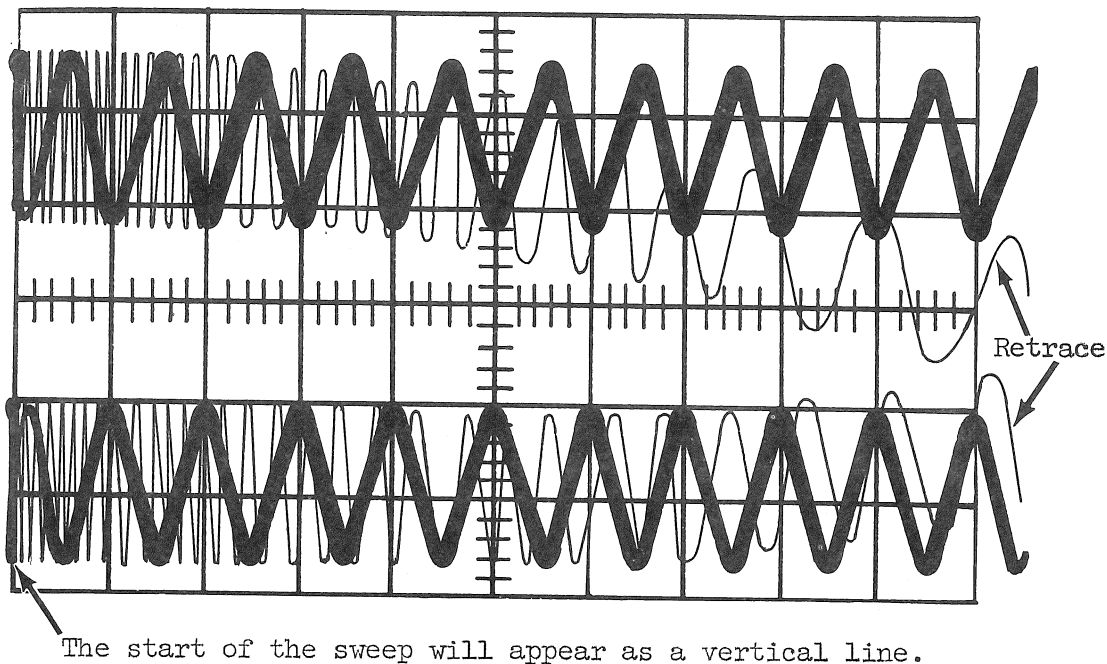

Figure 88
8. Set the INTENSITY control cw until the start of each trace can be seen. Align the start of the sweeps with the left hand edge of the graticule. Return the INTENSITY control to a normal setting. (See Fig. 88)